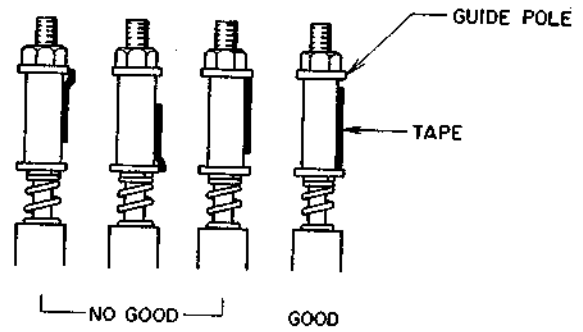

Fig. 115
- 2) Make adjustment with the supply guide height adjustment nut so that the lower part of the tape will pass the lower part of the guide pole without curling as shown in Fig. 115.